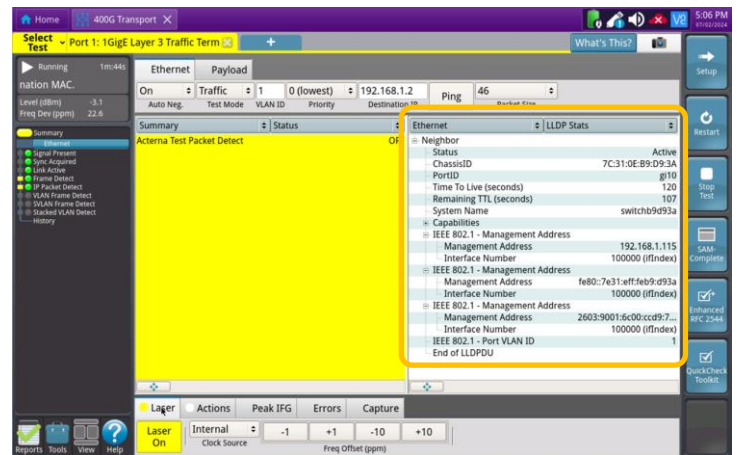

Figure 12: LLDP Stats
- LLDP allows devices to advertise device information to directly connected devices. Although it can be disabled, most switches and routers will advertise System Names, Port IDs, VLAN IDs, and IP Management Addresses as shown in Figure 12.